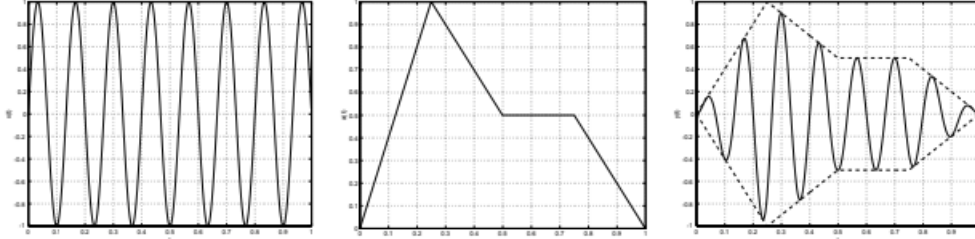

Figure 2: Amplitude modulated ADSR envelope
The envelop can be generated by point-by-point multiplication of the tone and the ADSR waveform resulting in ADSR envelope as shown in Fig. 2, that closely resembles the sound of a real instrument. Please refer the paper titled ”Computer Music in Undergraduate Digital Signal Processing” uploaded with this document for more details.
- (c) The output envelope will be the amplitude modulated envelope with the square tone as carrier signal and ADSR waveform as modulating signal. **Note that the DAC is unipolar and hence the envelop will not be centered around 0V unlike the one shown in Fig. 2.**
- (f) You may also try to obtain the waveforms shown in Fig.2 with sine wave tones generating full envelopes. [Optional!]